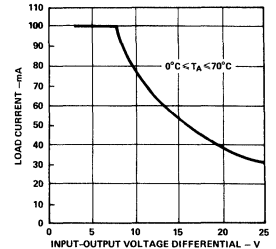

Figure 13. Maximum Load Current vs. Regulator Input-Output Voltage Differential
**Bridge Excitation (2B31):** The adjustable bridge excitation is specified to operate over a wide regulator input voltage range (+9.5V to +28V). However, the maximum load current is a function of the regulator circuit input-output differential voltage, as shown in Figure 13. Voltage output is short circuit protected and its temperature coefficient is  $\pm 0.015\%$   $V_{OUT}/^\circ C$  max ( $\pm 0.003\%$   $^\circ C$  typ). Output temperature stability is directly dependent on a temperature coefficient of a reference and for higher stability requirements, a precision external reference may be used.